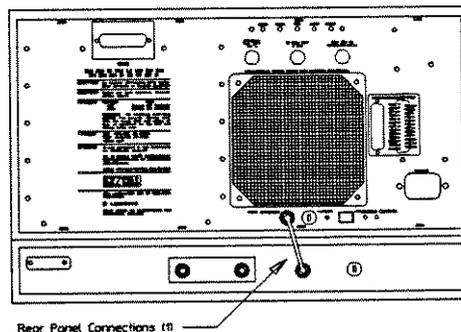

Figure 5-2 Rear panel interconnect cable installation
2. Install the test set interconnect cable between the rear panels of both instruments as shown in figure 5-2. This cable